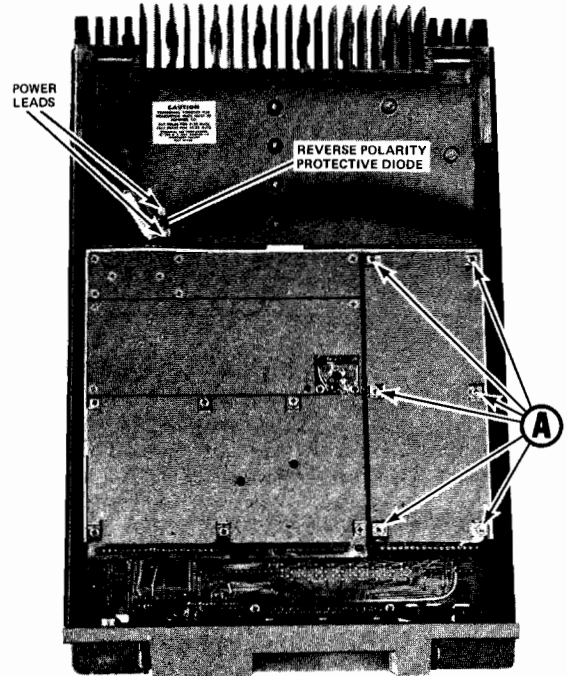

Figure 6 - Disassembly Procedure-Bottom View
1. Unplug the exciter/PA cable (B) .
2. Remove the six screws (A) holding the exciter board and its bottom cover to the module mounting frame (see Figure 6).